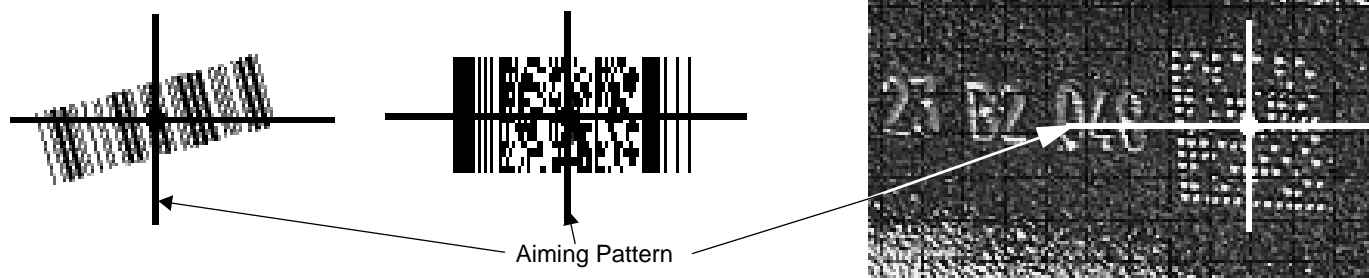

Figure 2-6 Scanning Orientation with Aiming Pattern
- ✓ **NOTE** Scanning Direct Part Mark (DPM) bar codes with the DS3508-DP20005R digital scanner: Due to the reflective nature of some surfaces used with DPM bar codes (see Figure 2-6), it may be necessary to tilt the scanner at an angle relative to the target (Zebra recommends 25-45 degrees). For example, when scanning a 15 mil dot peen Data matrix bar code marked on an aluminum surface with the DS3508-DP20005R, present the target between two and three inches from the nose of the scanner, and tilt the scanner at a 30 degree angle.